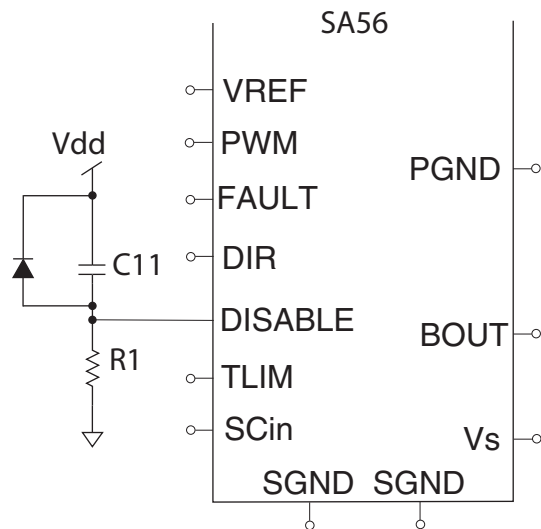

Figure 1. Start-up Reset
If a "soft start" is not practical, a start-up reset pulse can be generated on the EVAL25 board with a few external components. Figure 1 is an example of this reset pulse generator. When VDD is applied, the disable pin will be pulled high by capacitor C11 until C11 is discharged by R1. This generates a reset pulse on the disable pin. After the reset pulse is discharged, R1 holds disable at logic low for normal operation. The time constant of C11 and R1 must be a couple of milliseconds longer than the rise time of the VDD supply. A good choice for R1 is 10K - 20K ohms. The VS supply must be turned on before the VDD supply.
9. It is recommended that a 10K to 20K pull down resistor be installed between the disable line and SGND at the location labeled R1. For reliable start-up it is recommended to include a capacitor and diode to VDD as shown in figure 1.